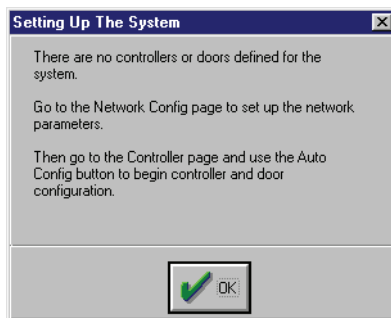

Figure 2-1: Setting Up The System Window
2. The first time the setup menu is entered (and every time until the system configuration parameters have been saved), the Setting Up The System window appears as a reminder that the system autoconfiguration needs to be performed (see Figure 2-1).